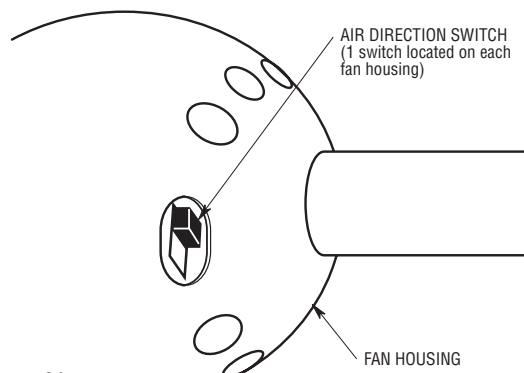

Figure 21
- 7 If airflow is desired in the opposite direction, turn the fans off at wall control and wait for the blades to stop turning. Then slide the reversing switches, located on both housings, to the opposite position (Figure 21) and turn the fan on again. The blades will turn in the opposite direction and reverse the airflow.